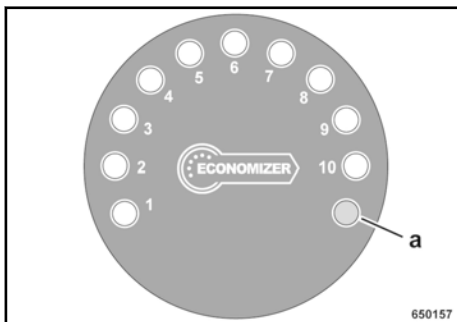

Fig. 74
The system first performs an LED-test. The LEDs light up one after the other, starting with LED (1) → Fig. 74. Once all LEDs are on, the display goes out again in single steps.